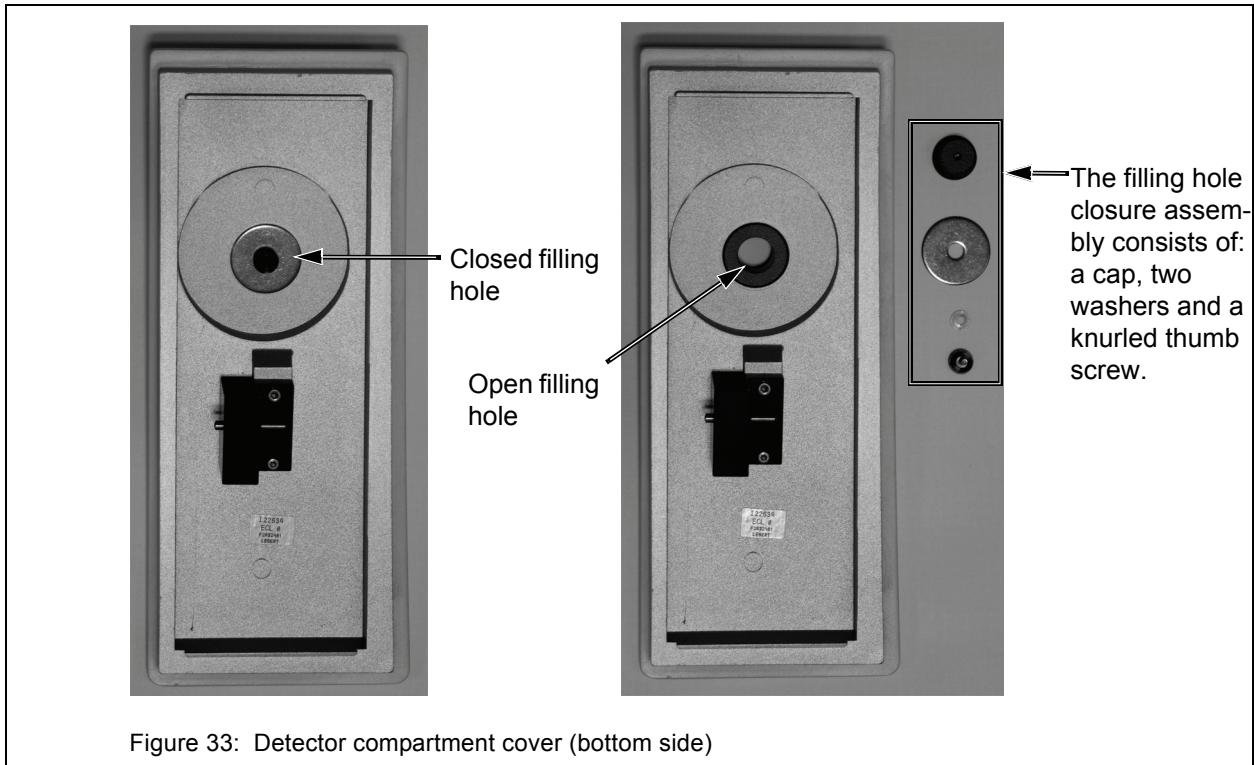

Figure 33: Detector compartment cover (bottom side)
- 3 Screw off the knurled thumb screw, remove the two washers and take the plug out of the filling hole. (See fig. 33.)